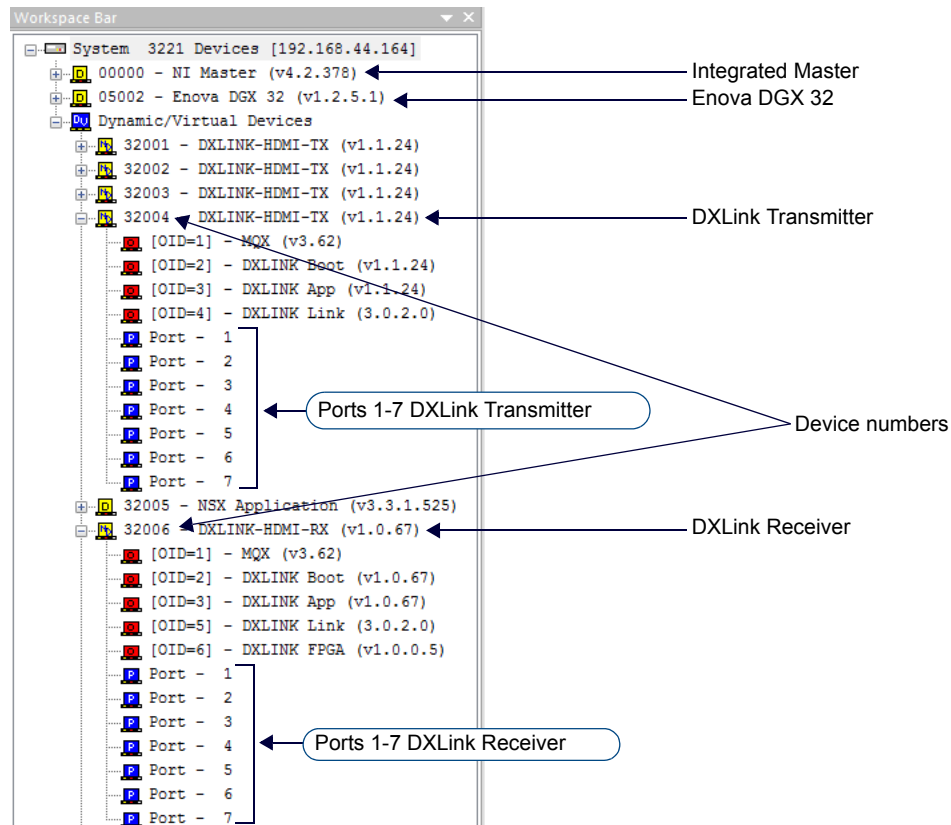

FIG. 40 NetLinX Studio ? Integrated Master, Enova DGX 32, DXLink Transmitter, and DXLink Receiver
When a Transmitter and/or a Receiver are being used in conjunction with a switcher, the switcher's integrated Master is used for the KIT file transfer. FIG. 40 shows a Transmitter and a Receiver bound to the integrated Master in an Enova DGX 32 in NetLinX Studio's OnLine Tree. Follow the instructions on the top of page 88 to prepare for KIT file transfer and the instructions on page 90 for the actual transfer.
7. Determine the Device Number assigned to the target Transmitter or Receiver when it was bound. For the Device Number location, see FIG. 40 on page 88. The Transmitter or Receiver is ready for the KIT file transfer.
- Enter the Device and System numbers (see FIG. 40 on page 88) for the target module in the Device and System text boxes.